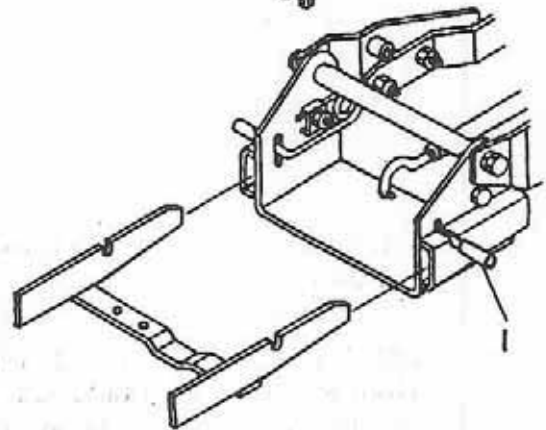

FIGURE 9
- Attach the snowblower to the tractor subframe by placing the male hitch flat bar into subframe's female channel hitch (fig. 9). Be sure the male hitch is entered to it's maximum and is locked by the springs.
- a) Attach broom to the tractor subframe by placing the male hitch flat bar into the subframe's female channel hitch (fig. 9). Be sure the male hitch is entered to its maximum and is locked by the springs.
- a) Attach the blade to the tractor subframe by placing the male hitch flat bar into the subframe's female channel hitch (fig. 9). Be sure the male hitch is entered to it's maximum and is locked by the springs.